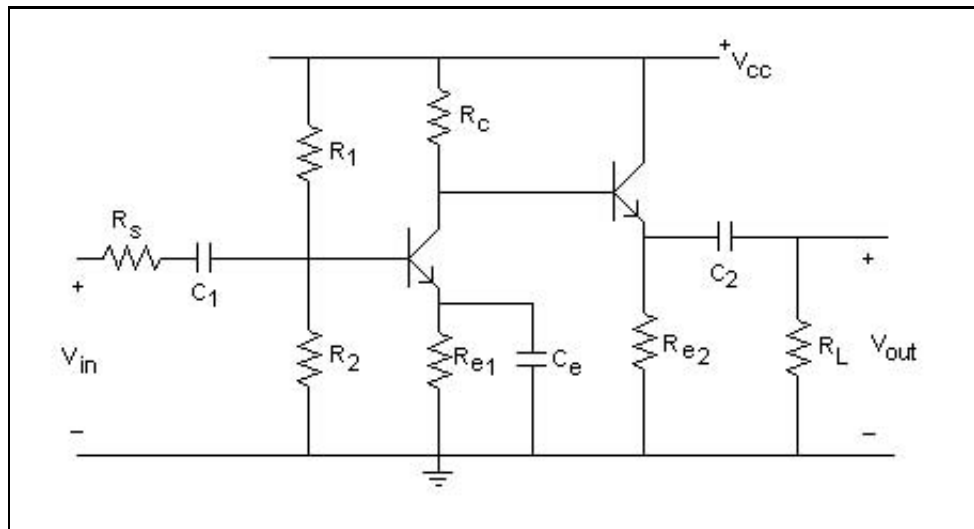
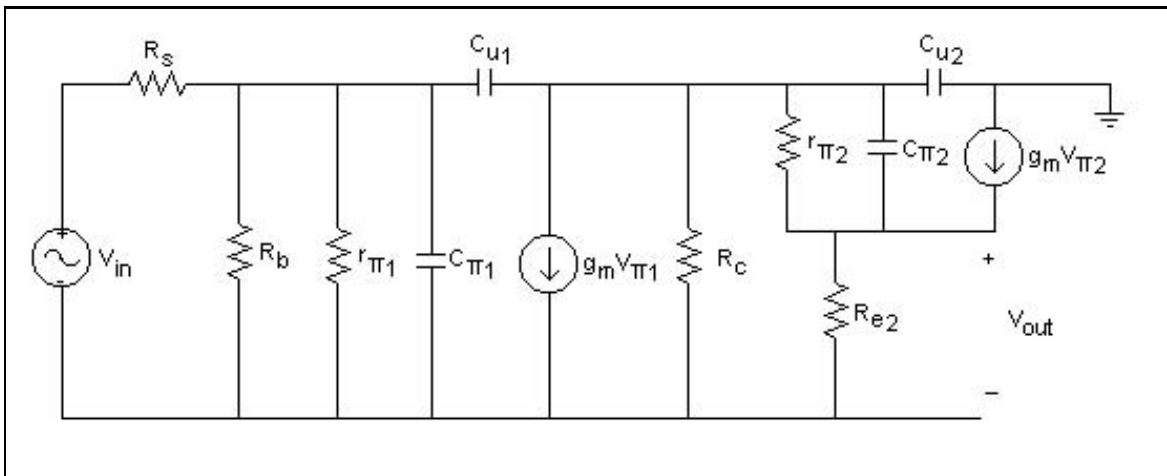

Figure 4.16: Typical Two-Transistor Amp
Figure 4.17: High Frequency Equivalent Circuit of CE-EF Amp
The OCTCA becomes especially useful for multi-transistor circuits where the number of loop equations quickly becomes too numerous for conventional analysis. As an example, consider the typical circuit which contains a CE gain stage followed by an EF buffer stage shown in Fig. 4.16. This circuit has the following high frequency equivalent shown in Fig. 4.17.
1. Set up the CE-EF amp shown in Fig. 4.16. Let $R_1 = 100K$, $R_2 = 10K$, $R_C = 10K$, R_{E1} , $R_{E2} = 1K$, $R_L = 10K$, $C_1 = C_2 = C_E = 0.1\mu F$, $V_{CC} = 15V$, and $\beta=200$.